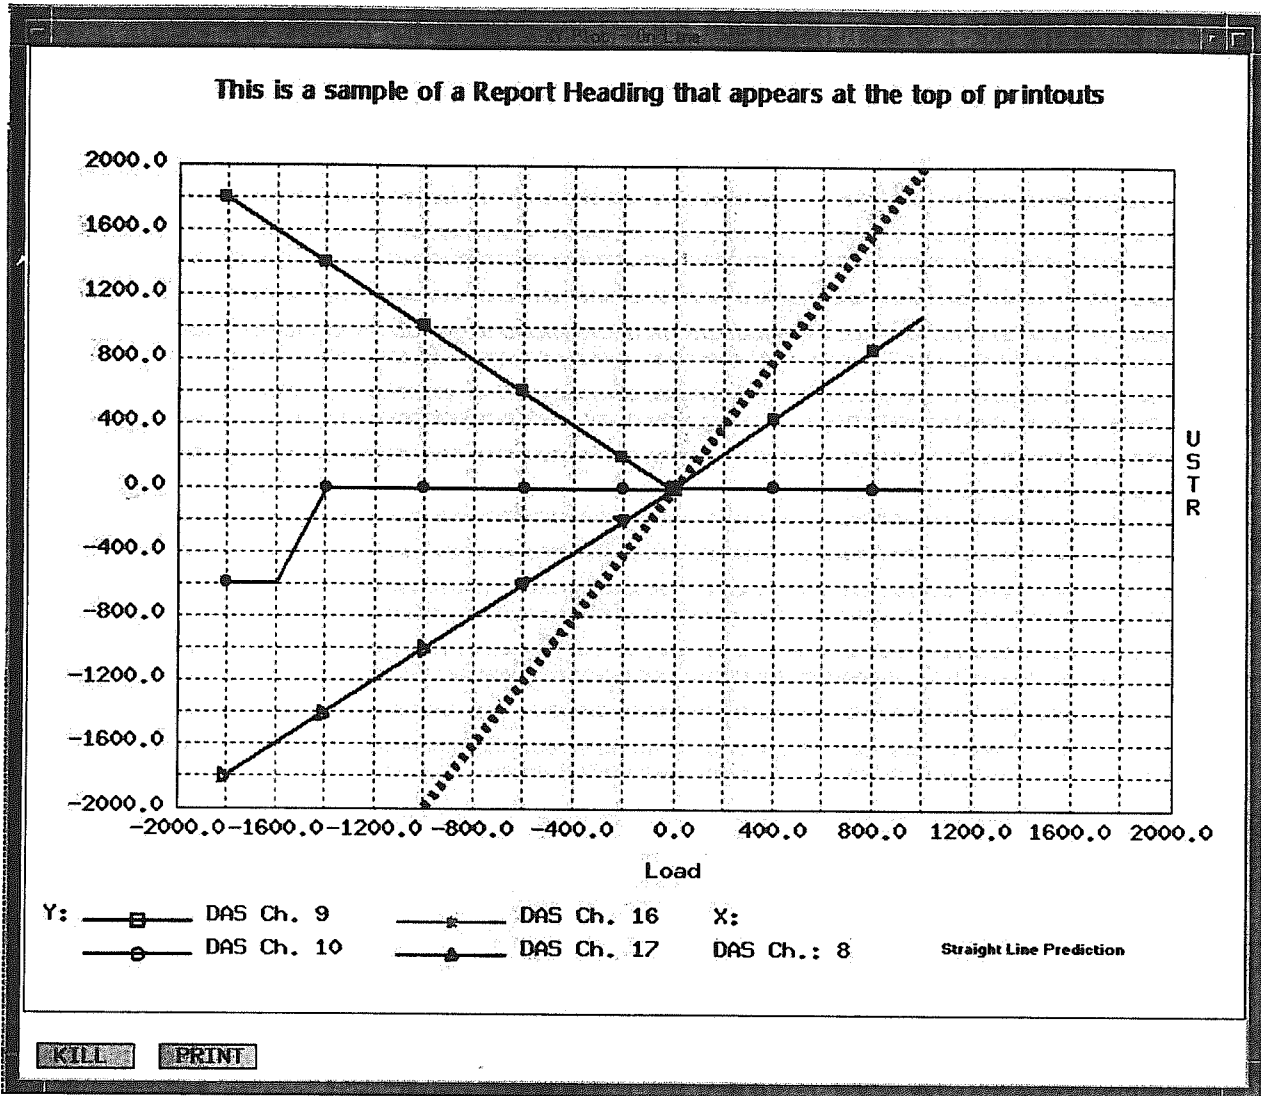
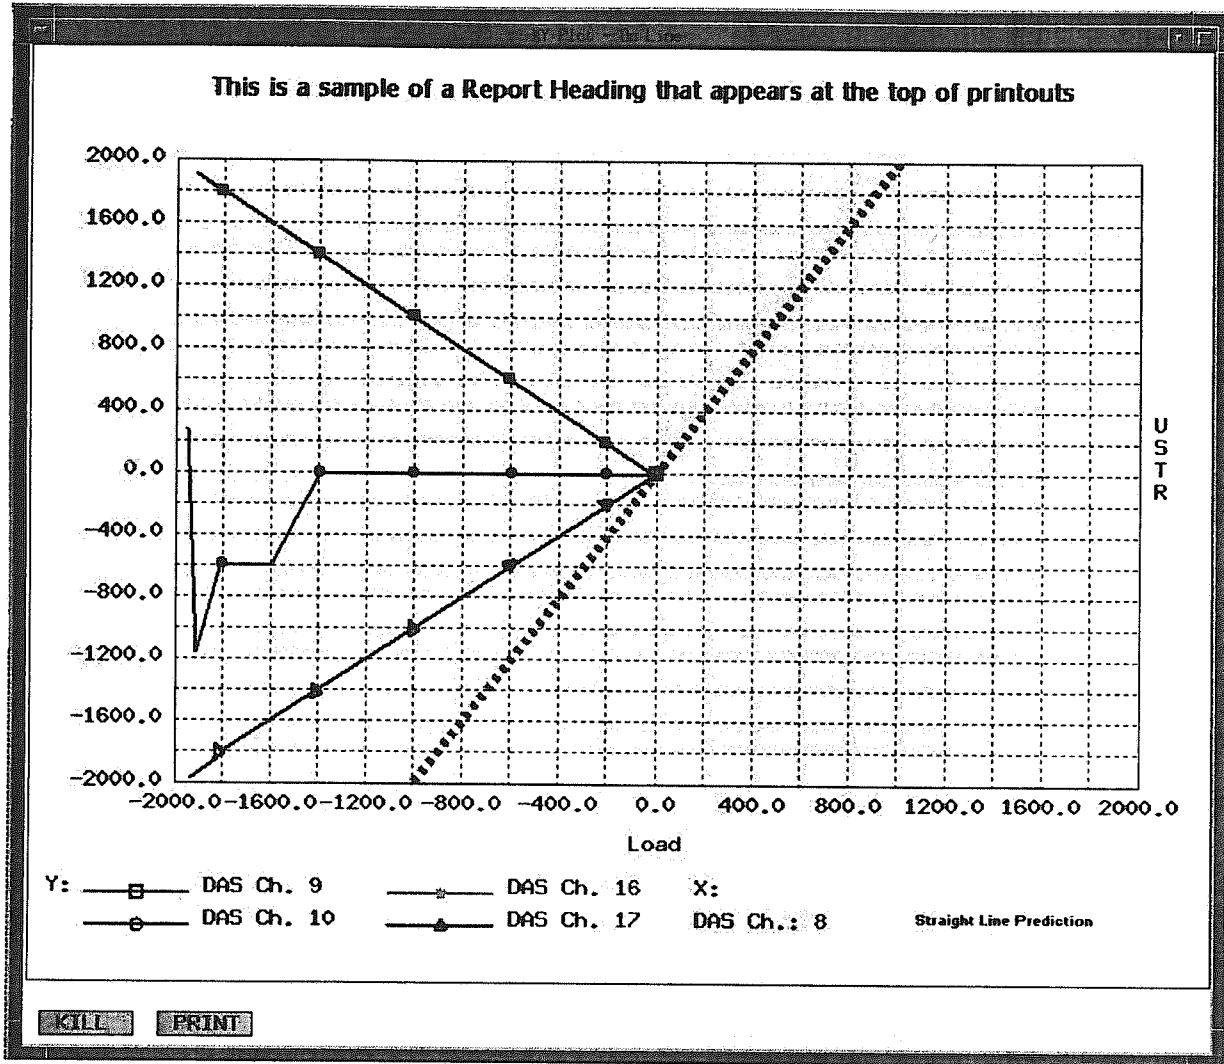

Figure 12-16 Example of an X-Y Plot with History
Figure 12-17 Same Plot as in Previous Figure, Except On-Line Data has been Added
Step 13) Select **OK** or press **RETURN**. A window similar to the one shown in **Figure 12-16** will appear. This display includes all of the previously recorded test data for the channels defined in the setup screen.
Step 14) As your test continues and the system reaches the next endpoint, new data is appended to the historical data (i.e. the DAS endpoint data which was previously recorded to the disk data file). An example of this is shown in Figure 12-17. The plot in this figure is the same as the one in Figure 12-16. However, if you look closely at the left side of the plot, you will notice that a new endpoint has been plotted from -1000.0 to +1000.0.